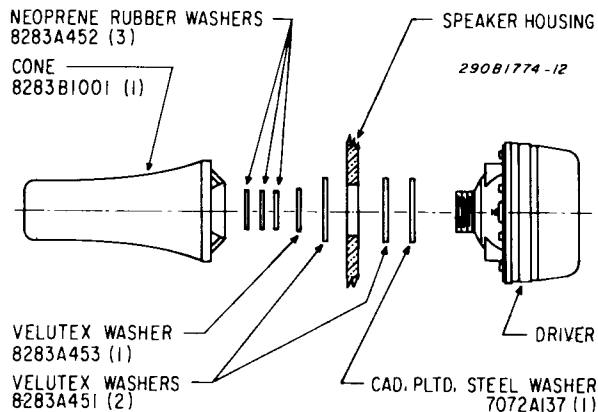

FIGURE 3
To replace the speaker driver and cone, proceed as follows (see figure 3):
5. Remove the driver, being careful not to lose the two (2) washers.
7. Reinstall the driver. Insure that washers are installed correctly (see figure 3). Re-connect the driver lead wires to the light assembly feed wires. Secure connections with wirenuts.
8. Reinstall cone. Insure that washers are installed correctly (see figure 3).